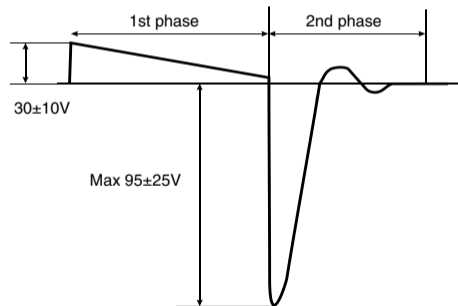

Fig.6. Impulse form and parameters
13.2.1. Electrostimulator “ABP-051” uses two automatic Programs №1 and №2, one of which consists of sequential series of impulses (Fig.6) differing in frequency, stimulation intervals and exposure magnitude which makes the electrostimulator effective for the use.